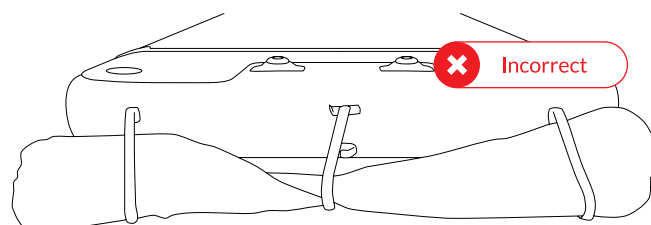
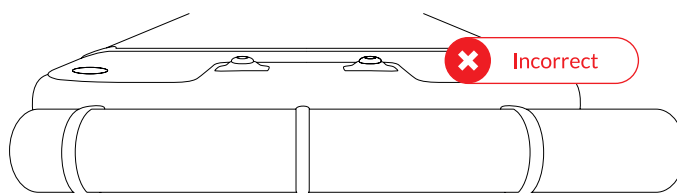
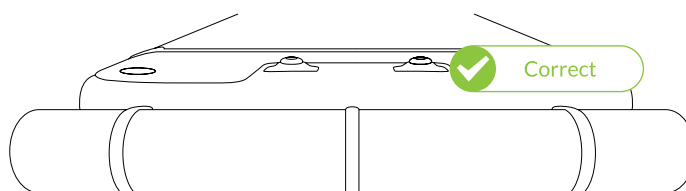

Fig 29 - Do not twist Air Toggle
Fig 31 - Position centrally, not like this
Fig 32 - Inflated Air Toggle
3. Also ensure that the actual Air Toggle isn't twisted (Fig 29) and is positioned centrally (Fig 32) rather than off centre (Fig 31).